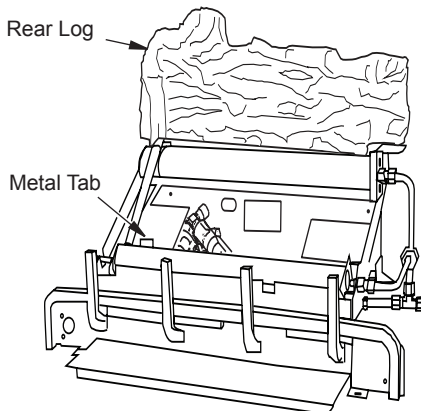

Figure 27 - Installing Rear Log
- Place rear log in back corner sections of base assembly as shown in Figure 27. The rear log is designed to lean back slightly when installed correctly.